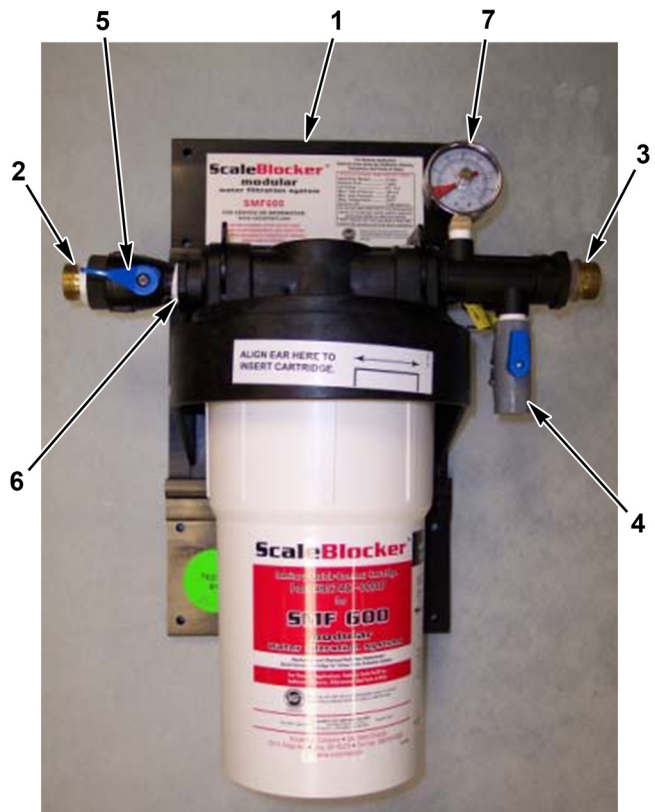

Fig. 1
Measure back plate(Fig. 1, Item 1) of filter system and mark hole mounting locations on wall. Ensure marks are level, and then drill holes for anchors (if needed). Anchors must be properly matched, to allow for wet weight of filter system and water lines. Secure water filter system to wall at all four mounting locations.
2. Connect water filter inlet to cold water supply to inlet fitting (Fig. 1, Item 6). If hard plumbed do not solder within 12" of plastic parts.
4. Connect filtered /treated water outlet (Fig. 1, connection with pressure gauge and Item 3 front) to the filtered/treated water inlet on the rear of the steamer.
5. Connect unfiltered/untreated water outlet (Fig. 1, elbow rear Item 3 front) to the unfiltered/untreated water inlet on the rear of the steamer.
6. There should not be any plumbing connections made to the test port below the pressure gauge. This is for filtered water sampling only (Fig. 1, Item 4).
2. Turn inlet ball valve to the “On” position (handle horizontal) slowly allowing water to fill filter system (Fig. 1, Item 5).
3. Purge the cartridge so that there is no air remaining by depressing the red button until a steady stream of water comes out (Fig. 1, Item 6).
- Gallon capacity of filter cartridge will vary according to flow rate, inlet pressure and local water conditions. Replace cartridge immediately if outlet pressure gauge is less than 20 psi or before end of capacity life (**Maximum cartridge operating life 6 months**). Fluctuations of pressure will occur and can be seen at gauge during heavy and light usage. Inspect gauge during worst case heavy water usage (Fig. 1, Item 7). It is recommended to change PRIOR to nearing end of cartridge life.